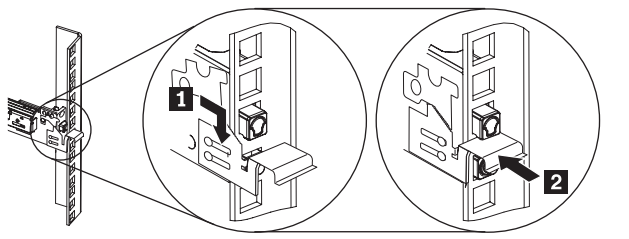

Figure 23. Installing the front of a SAN Volume Controller 2145-CF8 slide rail in the front of the rack
- b. Insert the two pins on the front of the rail, as shown by **1** in Figure 23, into the two lower holes in the U on the front of the rack.